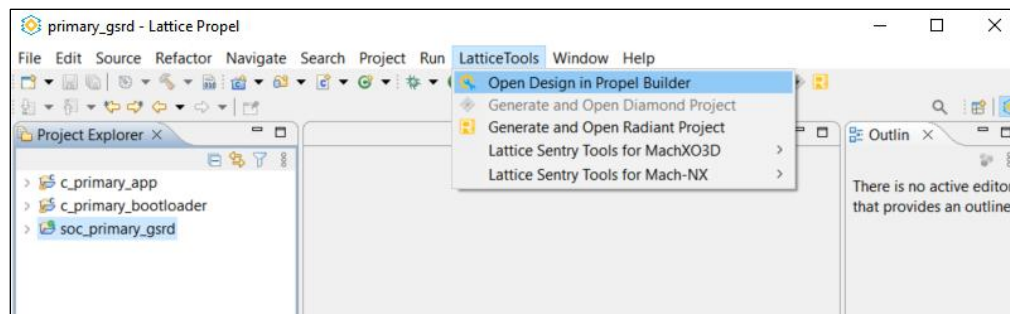

**Figure 8.37. FreeRTOS App Binaries Created with CRC and without CRC**
39. This creates the debug folder and the following files with **c\_primary\_app.bin** and **c\_primary\_appcrc.bin** binaries with CRC and without CRC as shown in Figure 8.37.